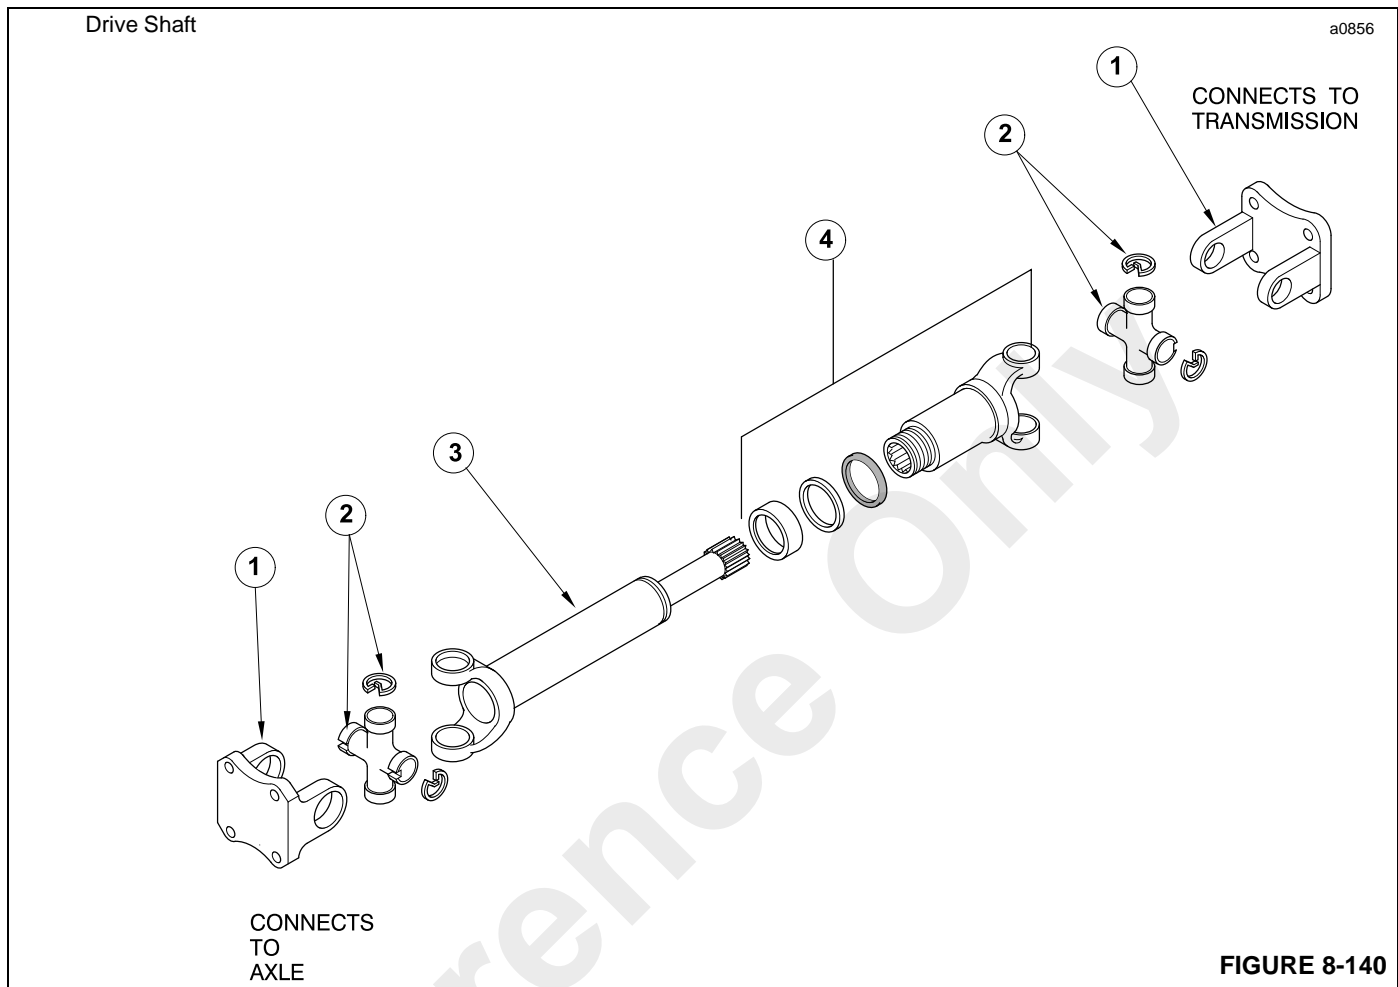
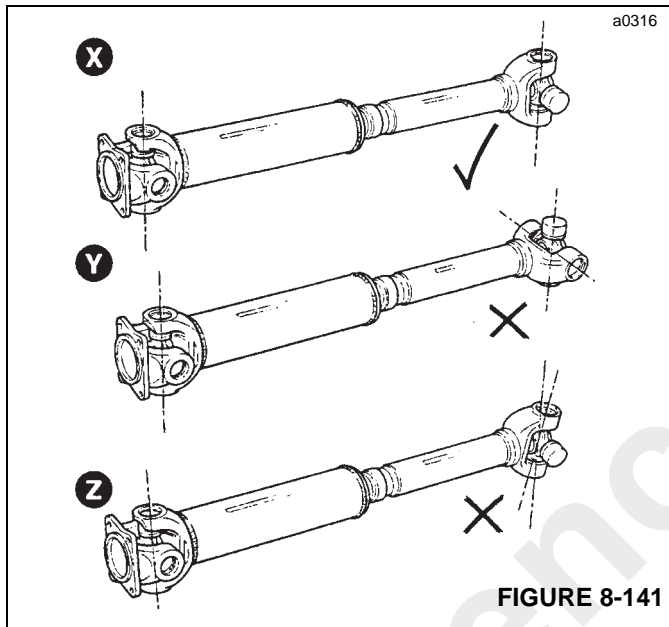

FIGURE 8-140
FIGURE 8-141
1. Place a flange yoke (1, Figure 8-140) in a vice. Using pliers, remove the two snap rings from the bearing caps in the flange yoke.
3. Disassemble journal cross (2, Figure 8-140) from the drive shaft using the procedure in steps 1 and 2. After the snap rings are removed, use a hammer and soft drift with a flat face slightly smaller than the diameter of the bearing, to remove the bearings.
5. To disassemble the slip tube (3) from the slip yoke (4), unscrew the dust cap and pull the two yokes apart.
1. Install the journal cross into the yoke of slip tube (3, Figure 8-140).
3. Repeat steps 1 through 3 on the opposite end of the drive shaft slip yoke end (4).
4. Repeat steps 1 through 3 and install a flange yoke (1) to each end of the drive shaft.
- Apply SAE 140 oil to the splines on the slip tube (3). Assemble the dust cap assembly to the slip tube. Slide the slip tube into the slip yoke (4). Make sure both ends of the drive shaft are in the same plane. See "X" in Figure 8-141. Tighten the dust cap assembly.
NOTE: The drive shaft must have both ends exactly on the same as shown in "X" of Figure 8-141. The yokes must not be at right angles as in "Y" or at an intermediate angle as in "Z".